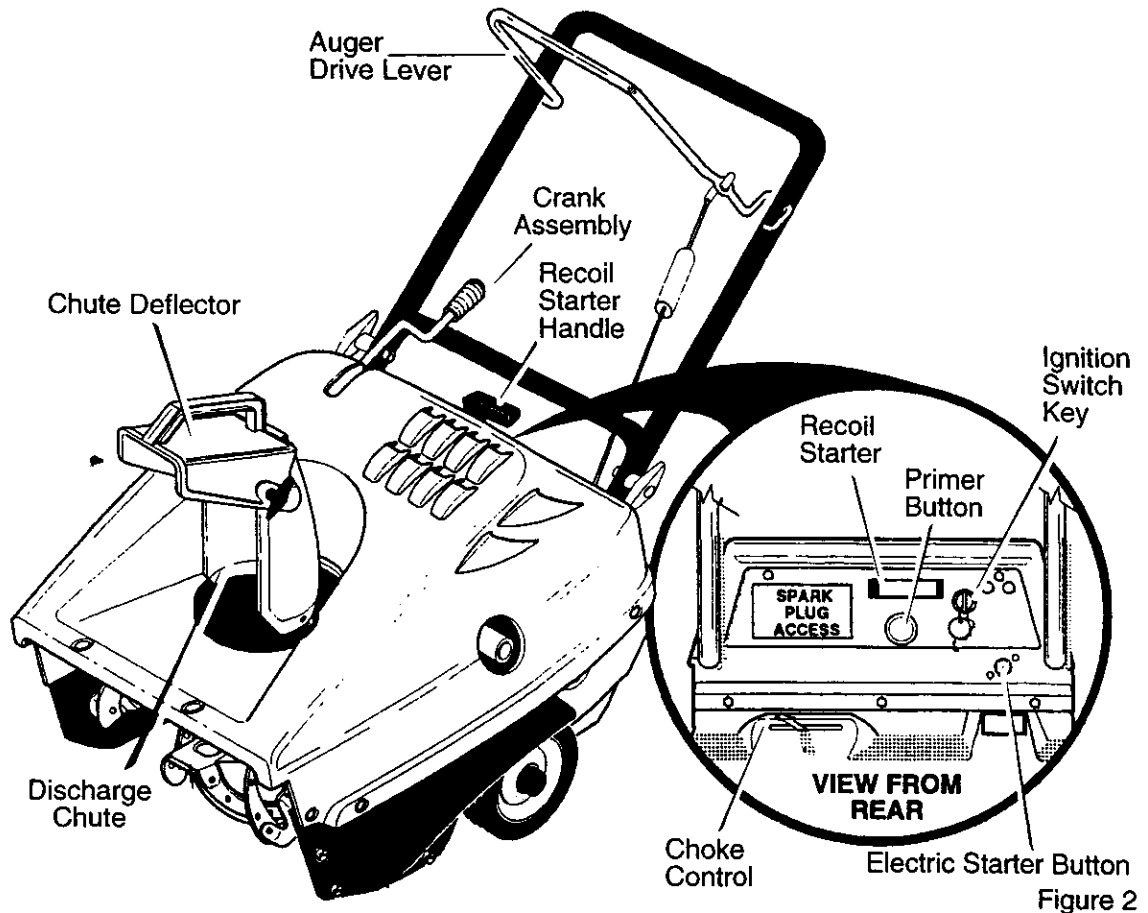

Figure 2
1. To stop throwing snow, release the **auger drive lever**. See Figure 2.